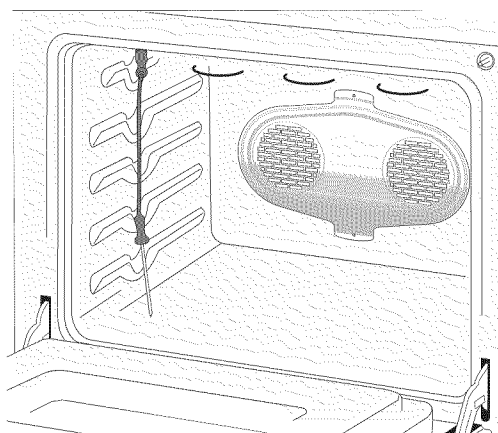

Fig. 2
2. Plug the probe **COMPLETELY** into the probe receptacle inside the oven -Fig. 2- and close the oven door.